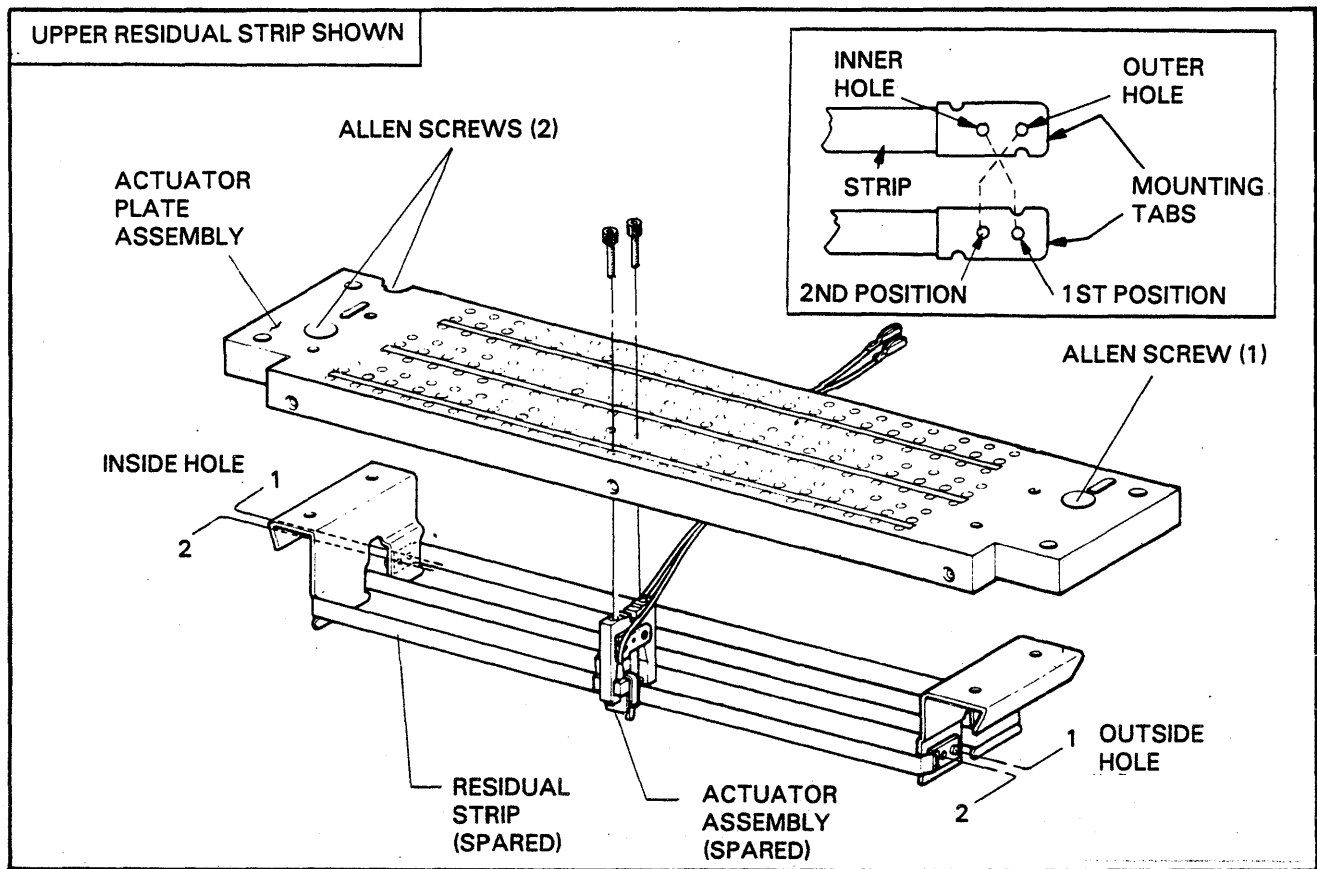

FIGURE 6-3. RESIDUAL STRIP POSITIONING
3. Position the strip's mounting tabs so that on one side of the actuator plate assembly the inner hole (closest to the strip) is positioned over the locating pin. On the opposite side of the actuator plate assembly, the mounting tab must be positioned over the pin using the outer hole. (Refer to Figure 6-3).